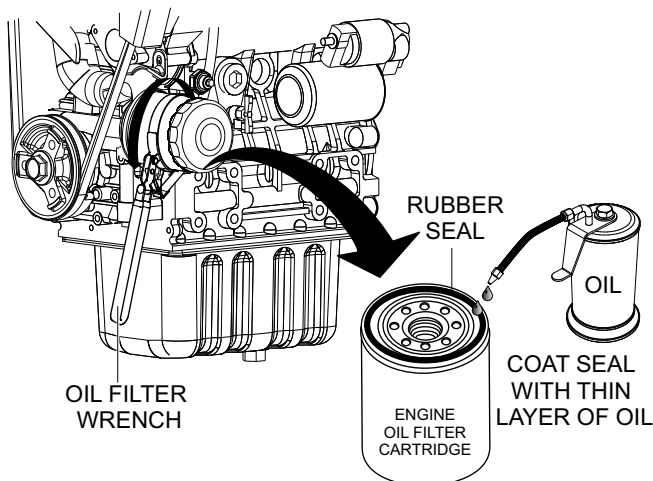

Figure 65. Engine Oil Filter Removal
- Using an oil filter wrench (Figure 65), remove engine oil filter.
- Coat the rubber seal (gasket) surface of oil filter (Figure 65) with clean 15W-40 engine oil.